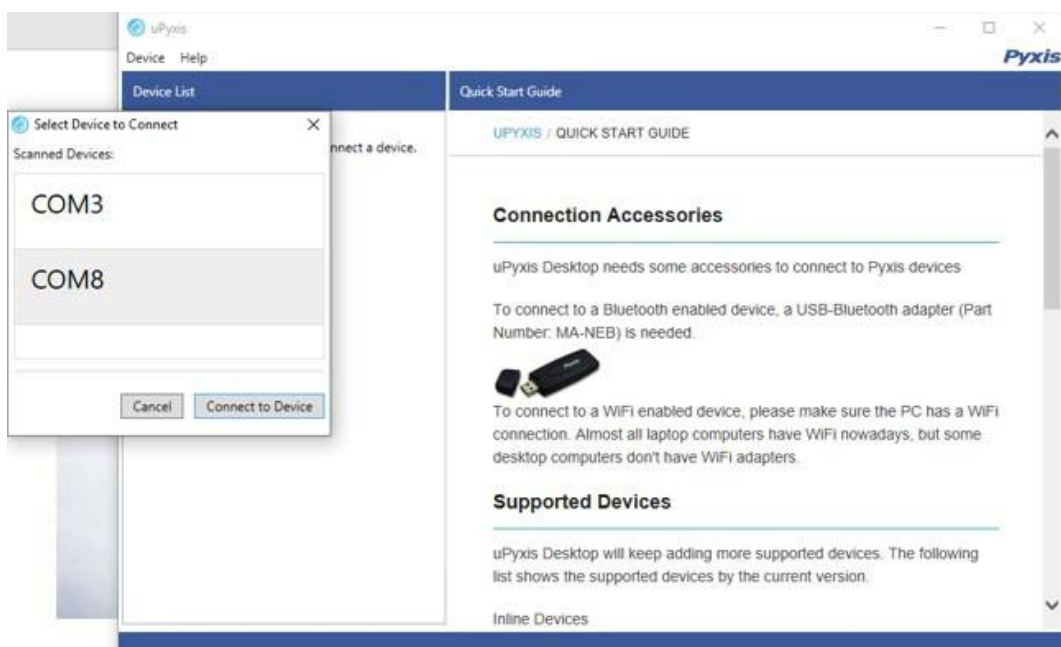

Figure 17 - Select a Comm port
- 7) Select the Comm Port to make a connection. Normally only one Comm port is identified by uPyxis (*Figure 17*). If more than one Comm port listed in the selection dropdown, you may try to select each one to see if a connection can be made. Alternatively, you may use the Windows Device Manager to identify the Comm Port that the Pyxis USB adapter is using.